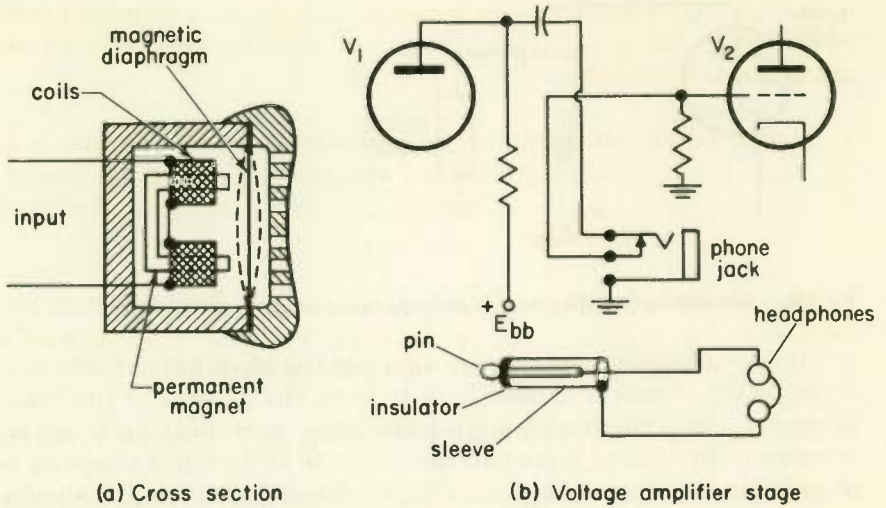

Fig. 29 Magnetic headphone; construction and connection.
21 HEADPHONES . . . In communications work, and for private listening, headphones are commonly used. These units use a moving coil, a crystal element, or a magnetic diaphragm for converting electrical waves into sound. The most common type of headphone is the magnetic diaphragm type shown in Fig. 29(a). The soft-iron diaphragm is normally under some tension because of the attraction exerted by the permanent magnet. When an audio signal is fed to the coils, the resulting alternating flux increases and decreases this attraction, causing the diaphragm to vibrate and produce sound waves. Headphones consume relatively small amounts of power, and they therefore do not require power amplifiers. When used with complete amplifier circuits, it is common practice to feed the headphones from a voltage amplifier stage. This is shown in Fig. 29(b). The phones are connected to a plug. When the plug is inserted into the phone jack, the phones are connected across the output of V_1 through the coupling capacitor C . Simultaneously the audio feed to the grid of V_2 is broken, and no sound will be heard from the loudspeaker connected to the output of V_2 .
The technique shown in Fig. 29(b) can be used with high-impedance headphones, and the majority of headphones in use today are of this type. Typical values for magnetic headphones generally range between 2000 and 5000 ohms. Values of crystal types may run as high as 100,000 ohms. However, low-impedance phones are also available. These may be of the magnetic or moving-coil type. Such headphones require impedance-matching transformers. Otherwise, their low impedance will tend to short-circuit the output of the preceding stage.
3. Redraw Fig. 29(b), eliminating the plug, jack, and the V_2 stage.
9. If low-impedance headphones are connected as in Fig. 29(b), the output from V_1 will be very (a) (*high*) (*low*). For proper operation, such headphones must be coupled through an (b) _____.